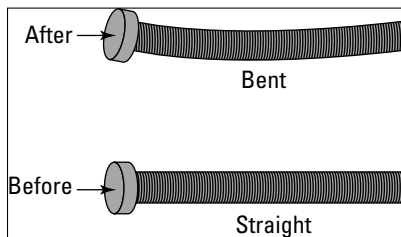

Figure 12-2:
- 3. Tap it once with a hammer to bend it slightly (10 or 15 degrees); see Figure 12-2.**